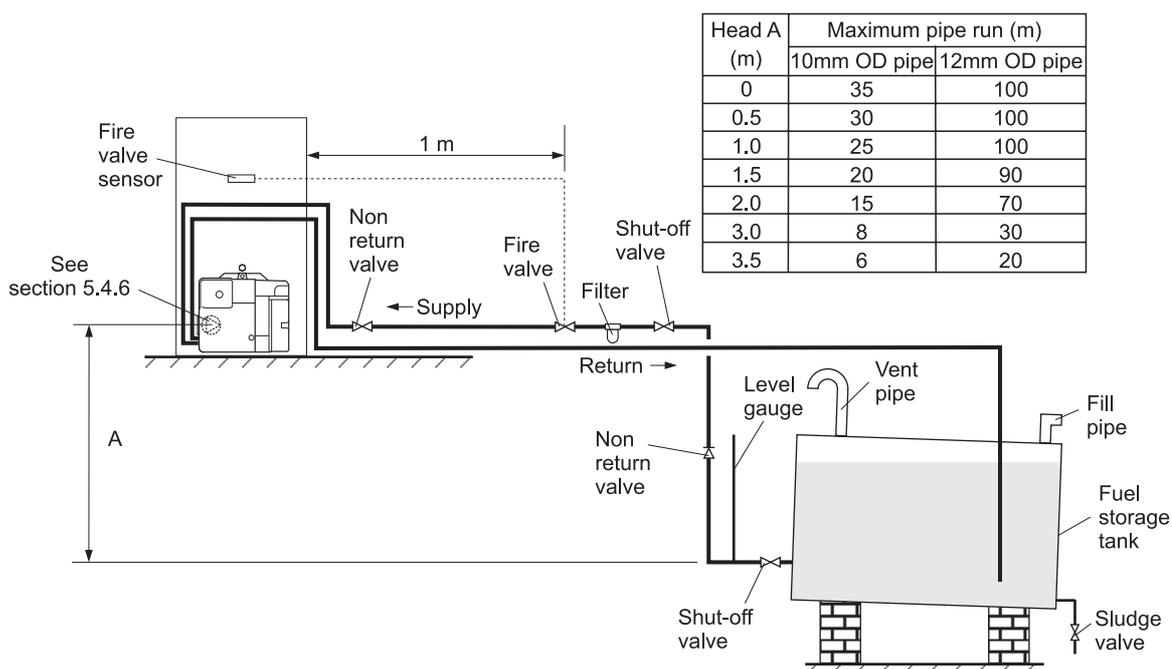

Fig. 6 - Two pipe system
5.4.4 Two pipe system - (See Fig. 6)